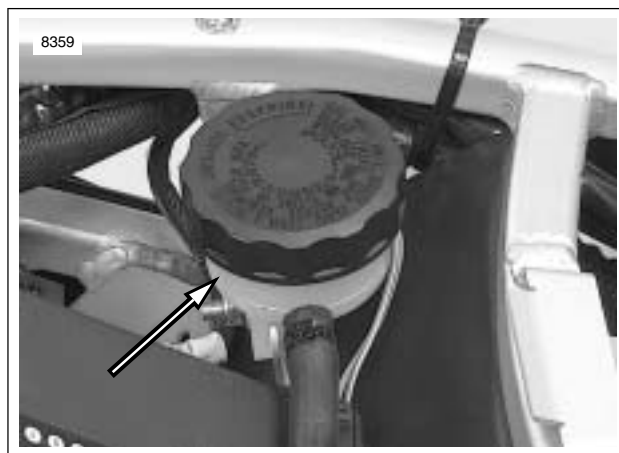

Figure 1-10. Rear Master Cylinder Reservoir
3. See Figure 1-10. Remove cap and gasket from rear master cylinder reservoir.